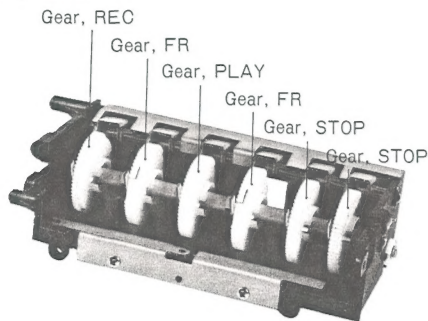

Fig. 16
- 5) After gear replacement, return each gear to its proper position. (See figure 16)